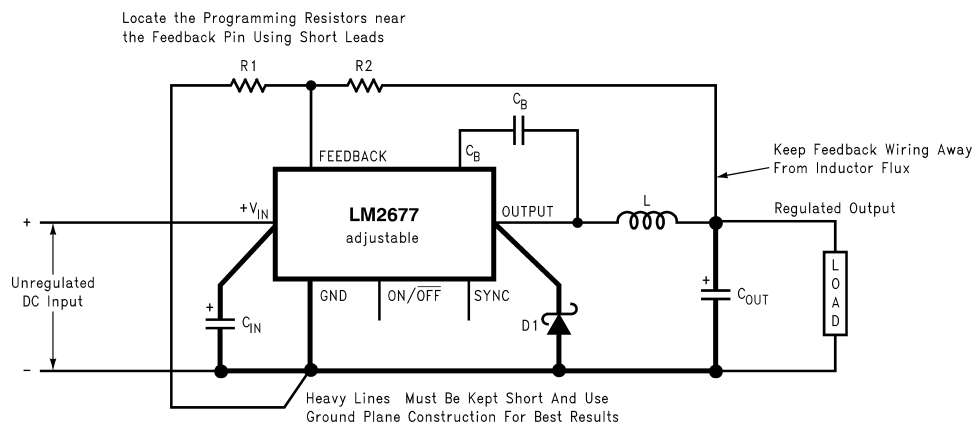

Figure 20. Basic circuit for adjustable output voltage applications
**Step 2:** Select an LM2677S-ADJ. To set the output voltage to 14.9V two resistors need to be chosen (R1 and R2 in Figure 20). For the adjustable device the output voltage is set by the following relationship: